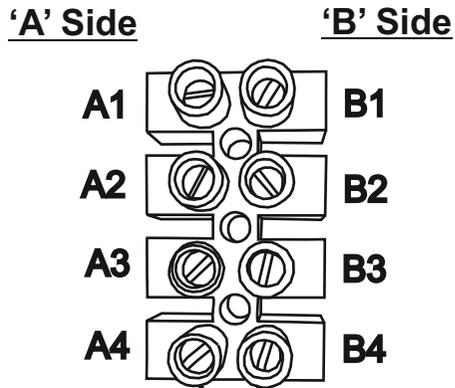

Fig. 8 (Terminal Connector)
- 2) Once the outer cover is completely detached, remove the four wires that go from the PCB to the 4-way terminal connector on the 'A' side. Do not remove any wires on the 'B' side of the terminal connector. (Please refer Fig. 8 on Page 10)
- 5) Fit the four wires removed earlier on the 'A' side of the terminal connector in their correct positions. (Refer Fig. 8 on Page 10)